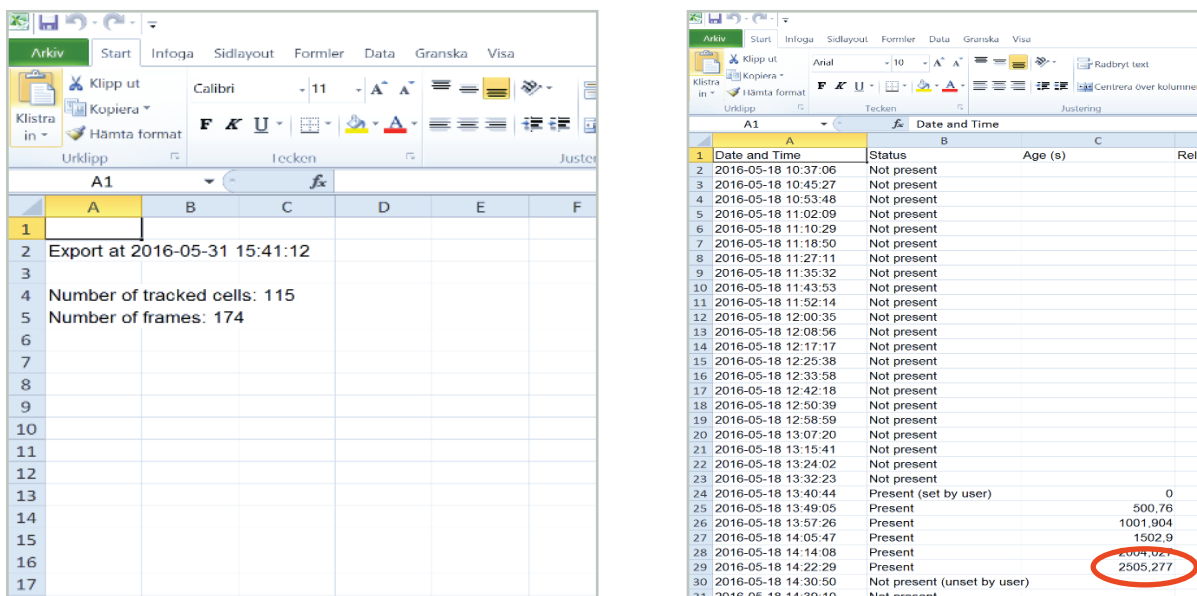

Figure 5. Mitosis length data presented in a spreadsheet.
- 3 For further analysis, export the tracking data to an XML-file. Open the file in **Excel**. In the first worksheet you will see the number of tracked cells and the number of frames (Figure 5, left). Each tracked cell has its own tab (see bottom of calculation sheet).
- 4 Click the individual cell tabs (Figure 5, right). You will see in which frames the cells were in mitosis and for how long (in seconds) the cells were in mitosis by the numbers found in the “Age” column, or the column C (red circle). **The total mitosis time** is the last and largest number in the column, as the numbers for each frame is added to the previous frame from the onset of the cell. If the cell status is denoted **Not Present**, the cell is not in mitosis and not selected by the user. **Present** denotes that the cell is selected and therefore in mitosis.